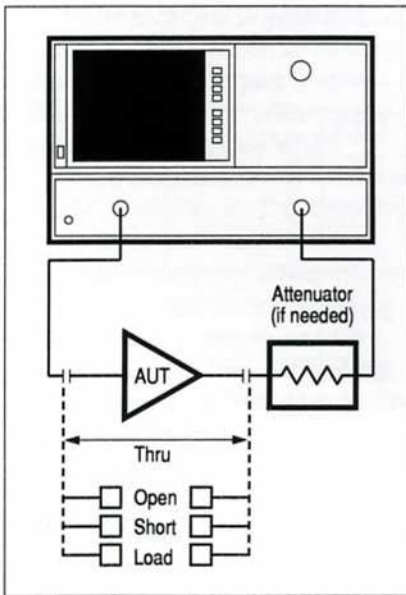

Figure 2. Basic setup for amplifier measurement using the HP 8510C network analyzer.
Measurements in the linear operating region of the amplifier can be made with the HP 8510C by using the basic set-up shown in Figure 2. Care must be taken when setting the input power to the AUT so that it is operating within its linear region.
1. Configure the system as shown in Figure 2. Return the HP 8510C to a known state of operation.